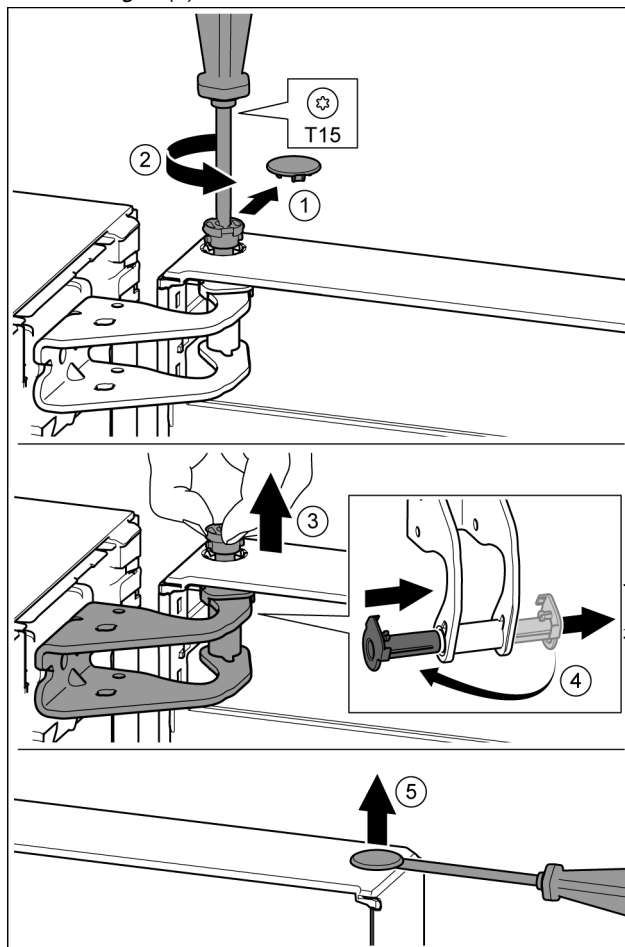

Fig. 10
- ▶ Carefully remove the protective cover. *Fig. 10 (1)*
- ▶ Undo the bolt a little with a T15 screwdriver. *Fig. 10 (2)*
- ▶ Hold the door and remove the bolts with your fingers. *Fig. 10 (3)*
- ▶ Pull the bearing bush out of the guide. Insert from the other side and click into place. *Fig. 10 (4)*
- ▶ Carefully lift the plugs out of the door bearing bush with a slotted screwdriver and remove. *Fig. 10 (5)*